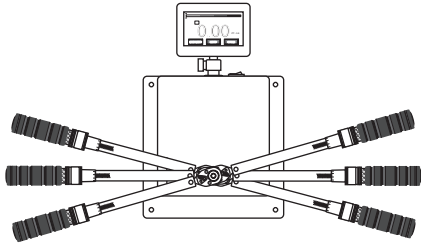

Figure 5: Wrench Position, Perpendicular to Tester
- Always position a torque wrench within 15° of perpendicular to the display housing (Figure 5).